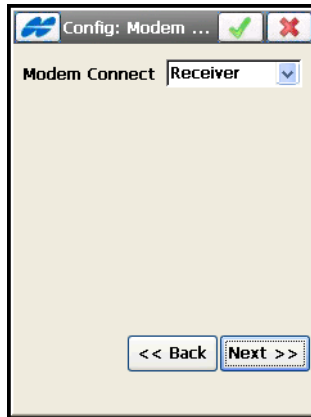

Figure 4-36. Modem Connect
3. On the **Config: Modem** screen (Figure 4-36 on page 4-33) select *Controller* if the modem is connected to the controller or *Receiver* if the modem is internal or external, but connected directly to the receiver.